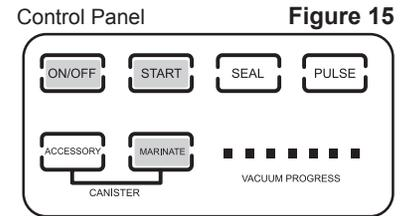

Figure 15
2. Press the **ON/OFF Button** (Figure 15) on the **Control Panel** to turn the **Vacuum Sealer** "ON". The **ON/OFF Button** on the display will illuminate and the **Internal Cooling Fan** will run.
7. The **MARINATE Button** (Figure 15) has two settings:
10-MINUTE MARINATE PROCESS: Press the **MARINATE Button** once. There are a series of seven lights on the bottom right corner of the **Control Panel** (Figure 15) that indicate the **VACUUM PROGRESS**. Three lights in the **VACUUM PROGRESS** bar will illuminate. This will engage the **10 Minute Marinate Process**.
20-MINUTE MARINATE PROCESS: For deeper marinade penetration, use the **20-Minute Marinate Process**. Press the **MARINATE Button** twice. There are a series of seven lights on the bottom right corner of the **Control Panel** (Figure 15) that indicate the **VACUUM PROGRESS**. Six lights in the **VACUUM PROGRESS** bar will illuminate. This will engage the **20 Minute Marinate Process**.